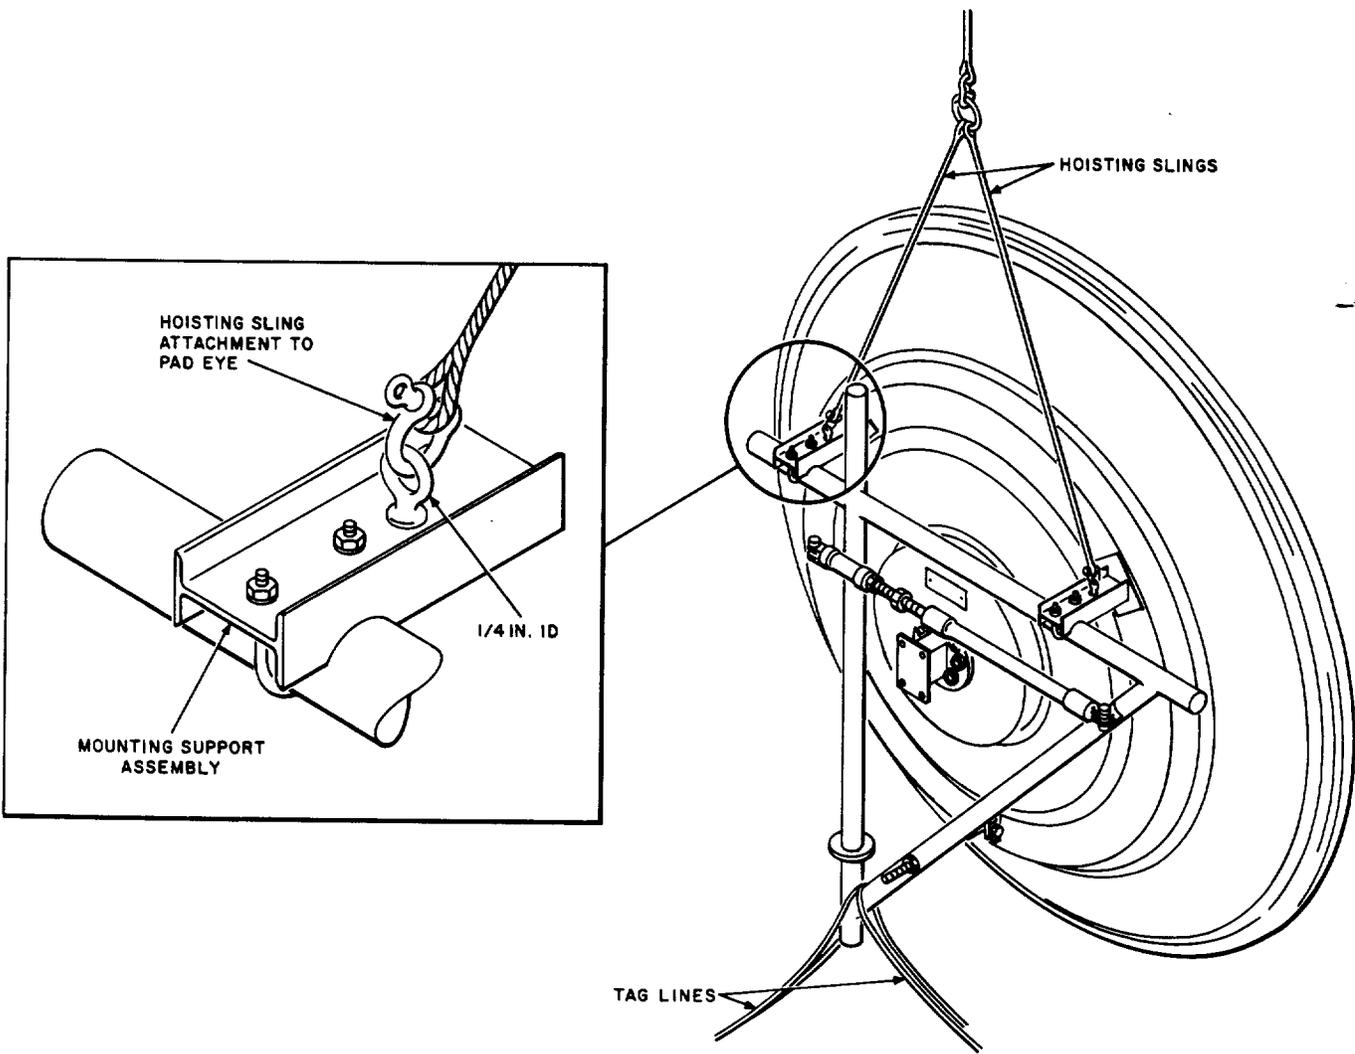

Fig. 14—Hoisting Sling and Tag-Line Attachments to Antenna
- 5.02 Connect the lifting sling to the two pad eyes supplied with the antenna (Fig. 14). The pad eyes are installed in the mounting support assembly.
5.04 Connect two tag lines to the mounting frame at the junction of the vertical and diagonal member as illustrated in Fig. 14. The tag lines should be used to prevent the antenna from striking the support structure or guy wires during the hoisting operation. As the antenna rises, it may be necessary for the men on the tag lines to move further from the support structure base in order to guide the antenna properly.
azimuth adjusting arm. The arm (Fig. 14) is between the diagonal member on the mounting frame and a tower angle or mounting bracket.